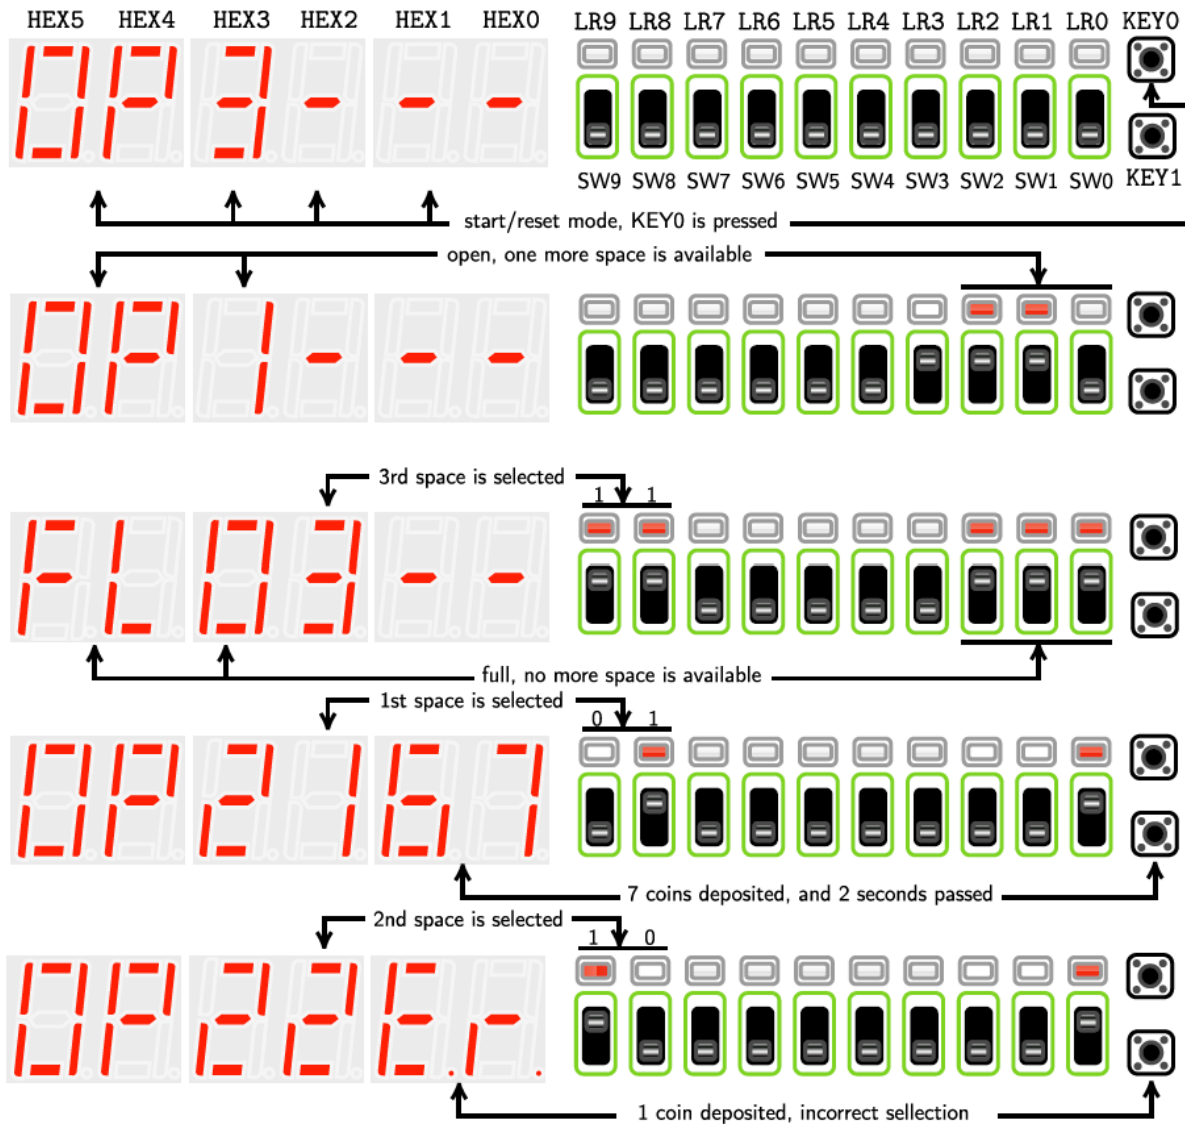

Figure 1: Parking system pattern.
1. Generate an asynchronous `RESET` signal using push-button `KEY0` to reset the system and display the pattern in Fig. 1.